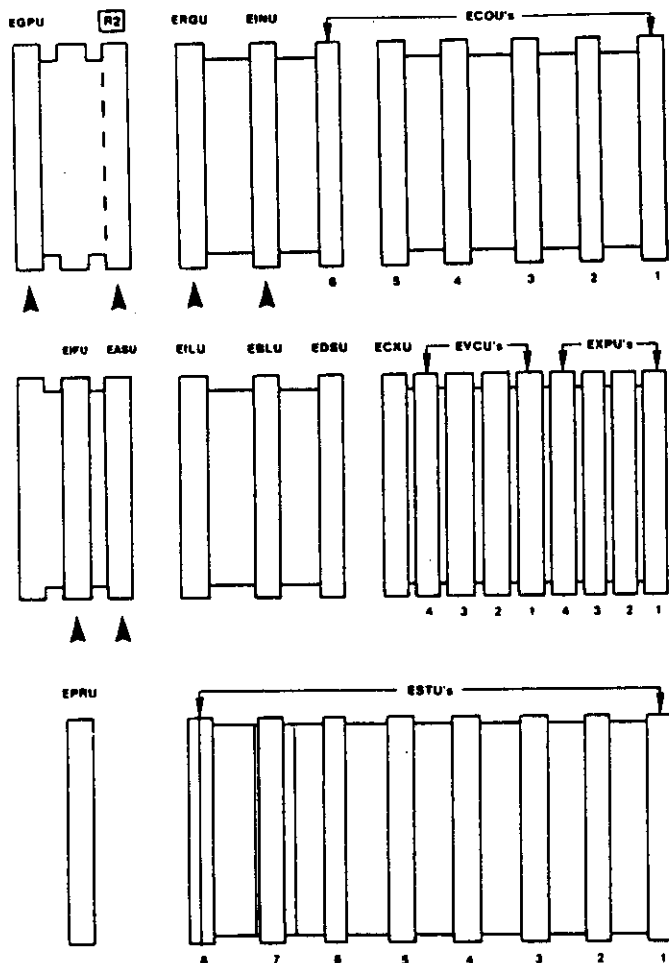

FIGURE 3 - EKSU REAR VIEW - LOCATION OF PCB CONNECTORS ON BACKPLANE
2.2.6 Place the "R2" decal on the outside of the rear panel above the position of the RPCC-3 as shown in Figure 3.
3.1.1 Figure 3 provides the location of the backplane connector pins for each PCB that may be installed in the EKSU.
See Figures 3 and 4. If these straps are present on the EKSU backplane, they will be the 3rd wire wrapped on these pins. The ERHS-3 harness (see paragraph 4.) will not be able to make a good connection on backplane pins having three or more wires wrapped on them.